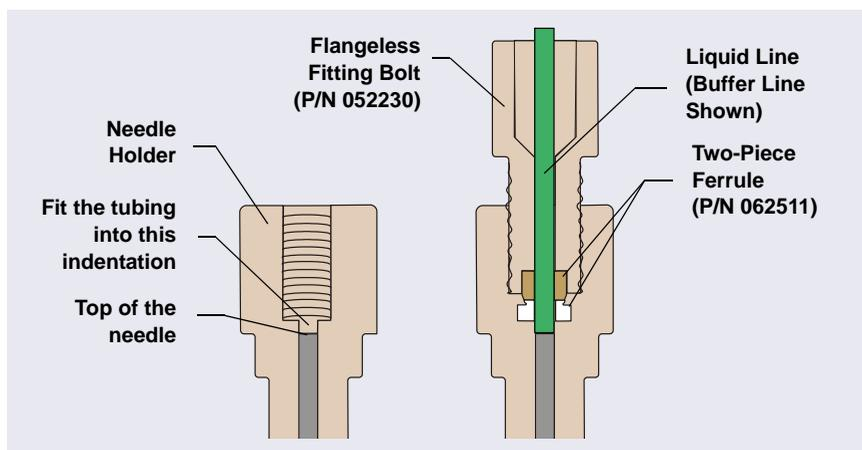

Figure 5-4. Cross-Section of Needle Holder and Liquid Line Fitting (Buffer Line Shown)
- a. Insert the tubing and fitting down into the center of the needle holder. When you insert the tubing, you should feel the tubing drop into a small indentation inside the holder (see Figure 5-4). If not, move the tubing slightly until it does.